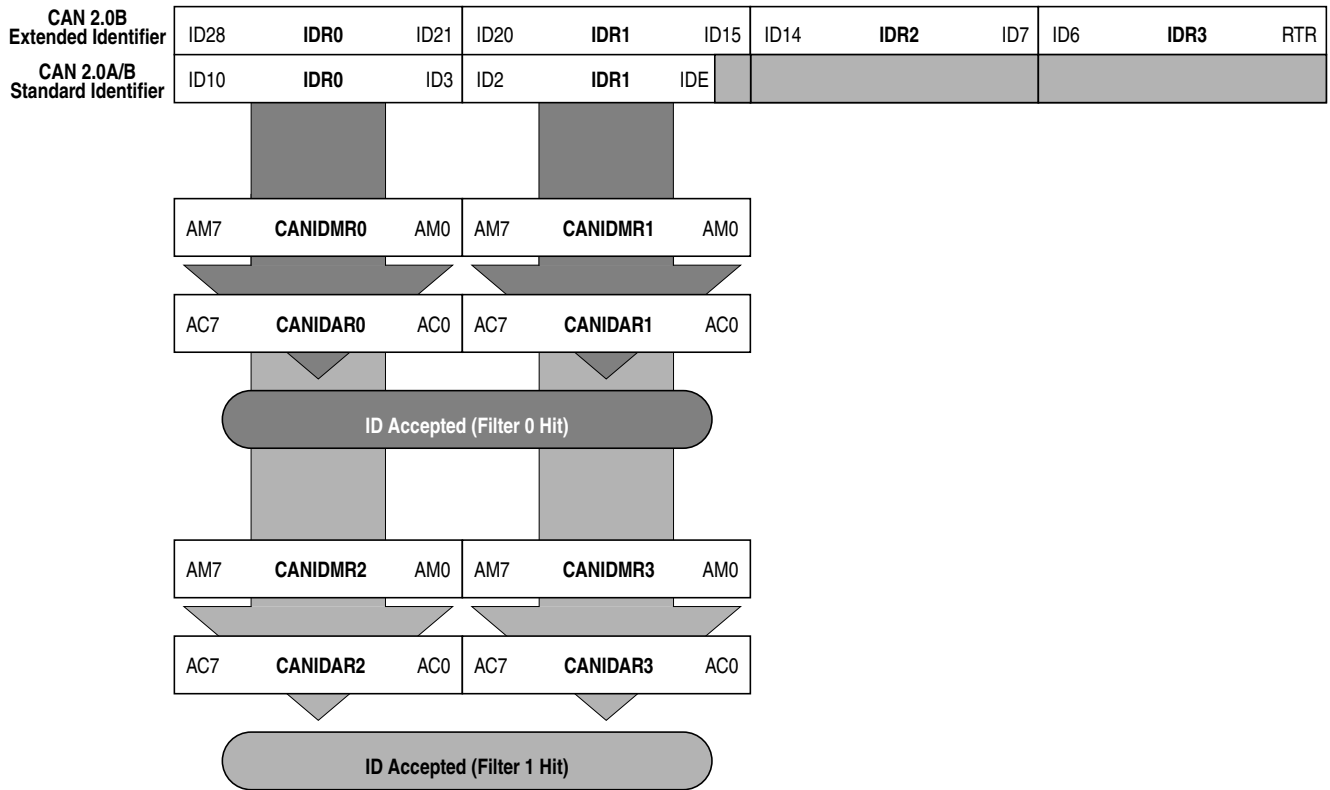

Figure 11-39. 16-bit Maskable Identifier Acceptance Filters
- Figure 11-39 shows how the first 32-bit filter bank (CANIDAR0–CANIDA3, CANIDMR0–3CANIDMR) produces filter 0 and 1 hits. Similarly, the second filter bank (CANIDAR4–CANIDAR7, CANIDMR4–CANIDMR7) produces filter 2 and 3 hits.